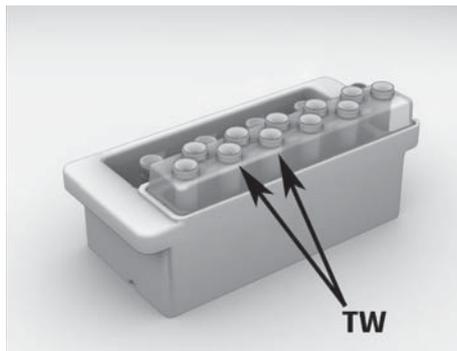

Figure 3–9: All reagents loaded into the Reagents cassette, for a maintenance wash Run
- 2 Empty any waste fluid from the Reagents cassette, and load the two Reagent trays from the GS FLX Maintenance Wash Kit into the Reagents cassette: the 4-tube Maintenance Wash Buffers tray on the left-hand side and the 11-tube Maintenance Wash Reagents tray on the right-hand side, reflecting the “Buffer CB” and “Sequencing Reagents” of the GS FLX (Titanium) Sequencing Kits. The 4-tube “Maintenance Wash Buffers tray” should sit at the bottom of the left-hand side of the Cassette, as shown in Figure 3–9.